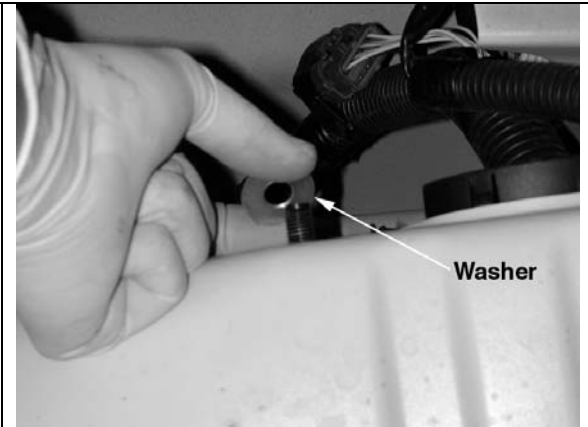

Fig. 10
- f) Place the supplied washer on to the stud coming through the fender well. **(Fig. 10)**